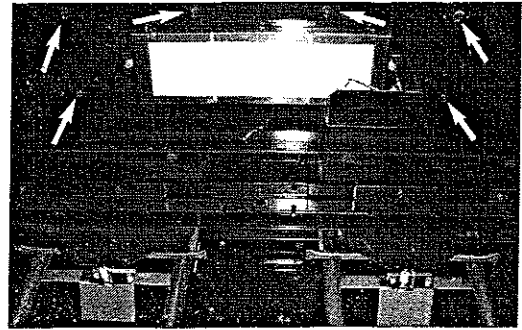

Fig 26
(See Fig. 26)
6. Place the rear infrared cover back and use the screws removed in step 1 to secure it to the hood support. (See Fig. 26)